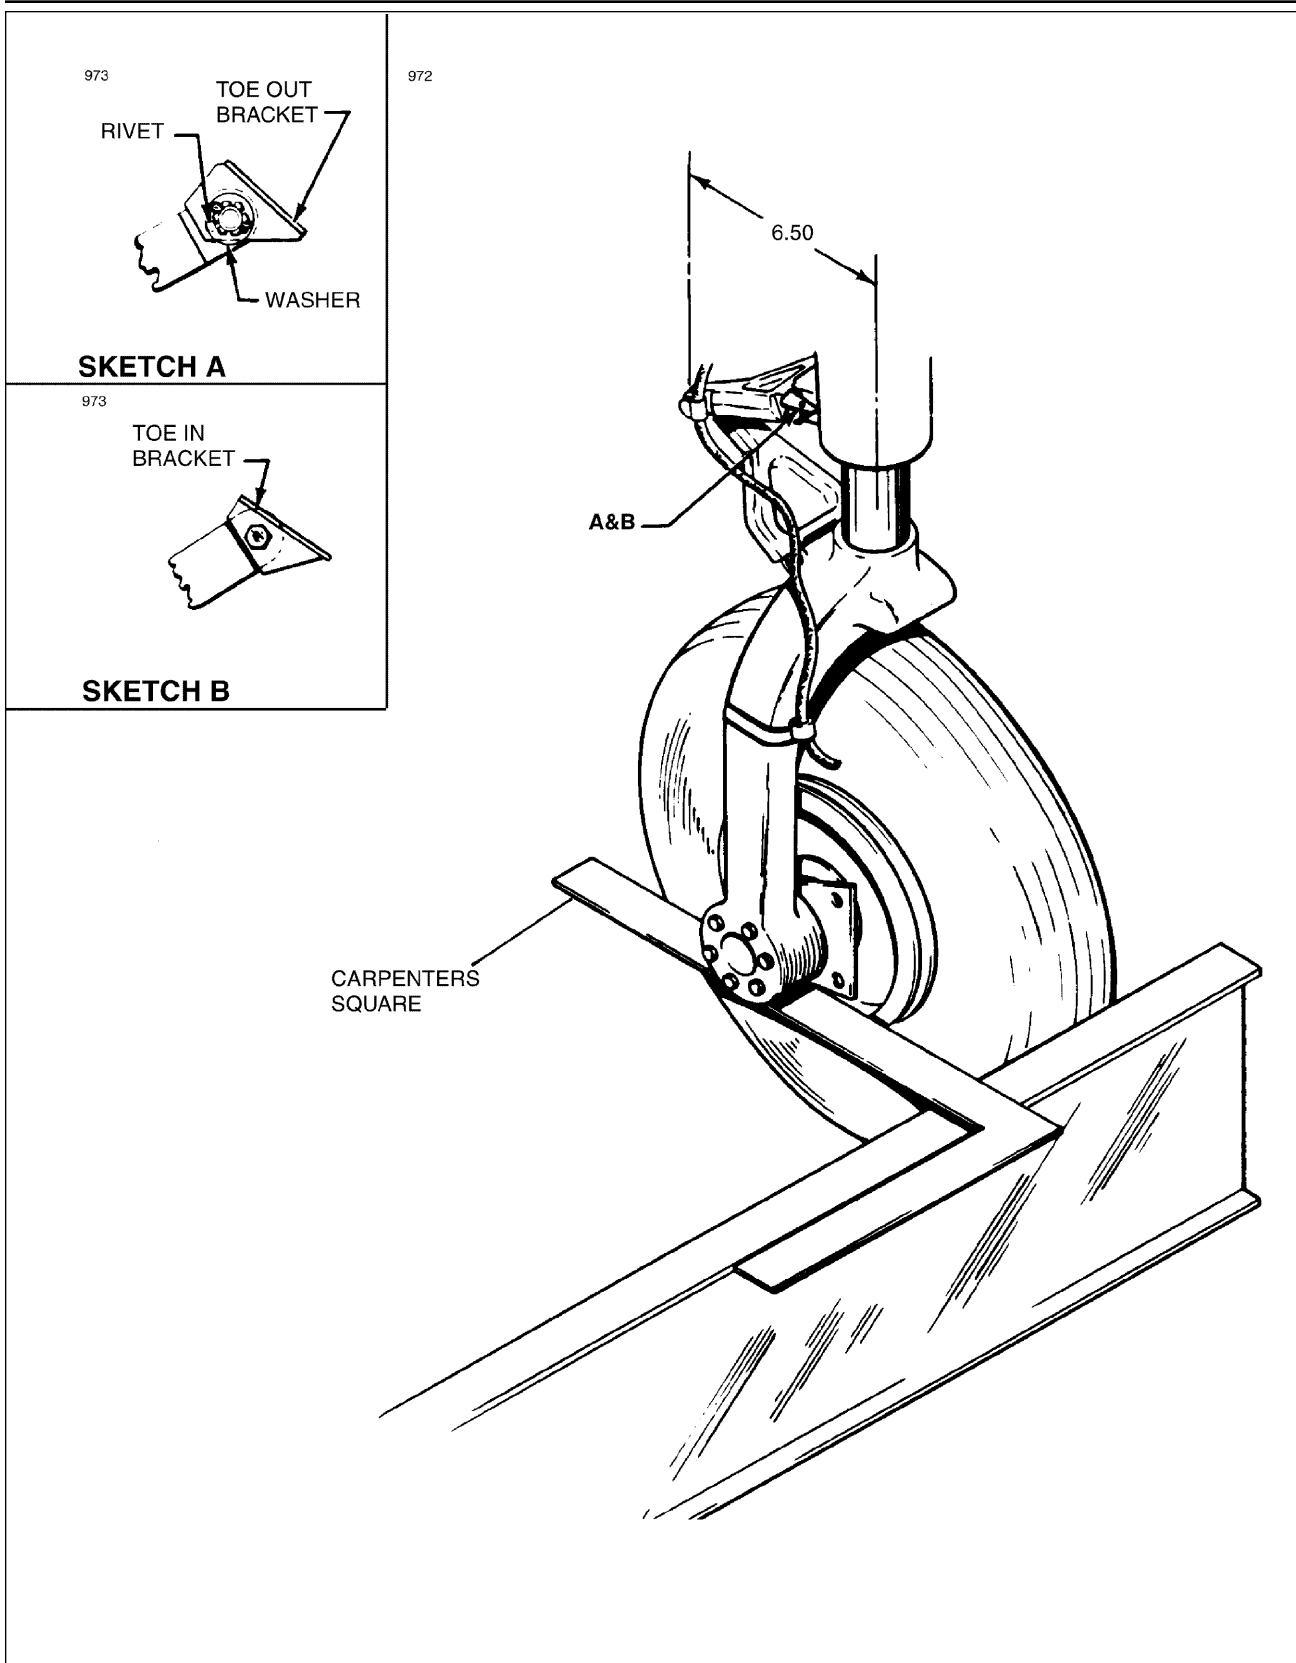

Figure 32-3. Aligning Main Gear
- (6) Connect the actuator rod end to the fitting in the upper truss link, making sure to properly install the spring swivel attachment.
- (7) Install down lock spring and check adjustment of landing gear.
- (8) Check wheel alignment per instructions below.
- (9) Ensure the landing gear is lubricated per 12-20-00.
- (10) Install access plates, reconnect gear door and lower airplane off jacks.
- D. ALIGNMENT (Refer to Figure 32-3.)
- (1) Place a straightedge no less than twelve feet long across the front of both main landing gear wheels. Butt the straightedge against the tire at the hub level of the landing gear wheels. Jack the airplane up just high enough to obtain a six and one-half inch dimension between the centerline of the strut piston and the centerline of the center pivot bolt of the gear torque links. Devise a support to hold the straightedge in this position.
- (2) Set a square against the straightedge and check to see if its outstanding leg bears on the front and rear side of the brake disc. (It may be necessary to remove the brake assembly to have clear access to the disc.) If it touches both forward and rear flange, the landing gear is correctly aligned. The toe-in for the main landing gear wheels should be 0 ± 1/2 degrees.